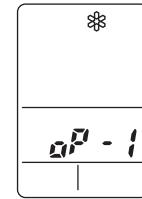

Fig. 59b
- d) * appears and "oP-1" blinks in the remote controller clock display area. (Fig. 59b)